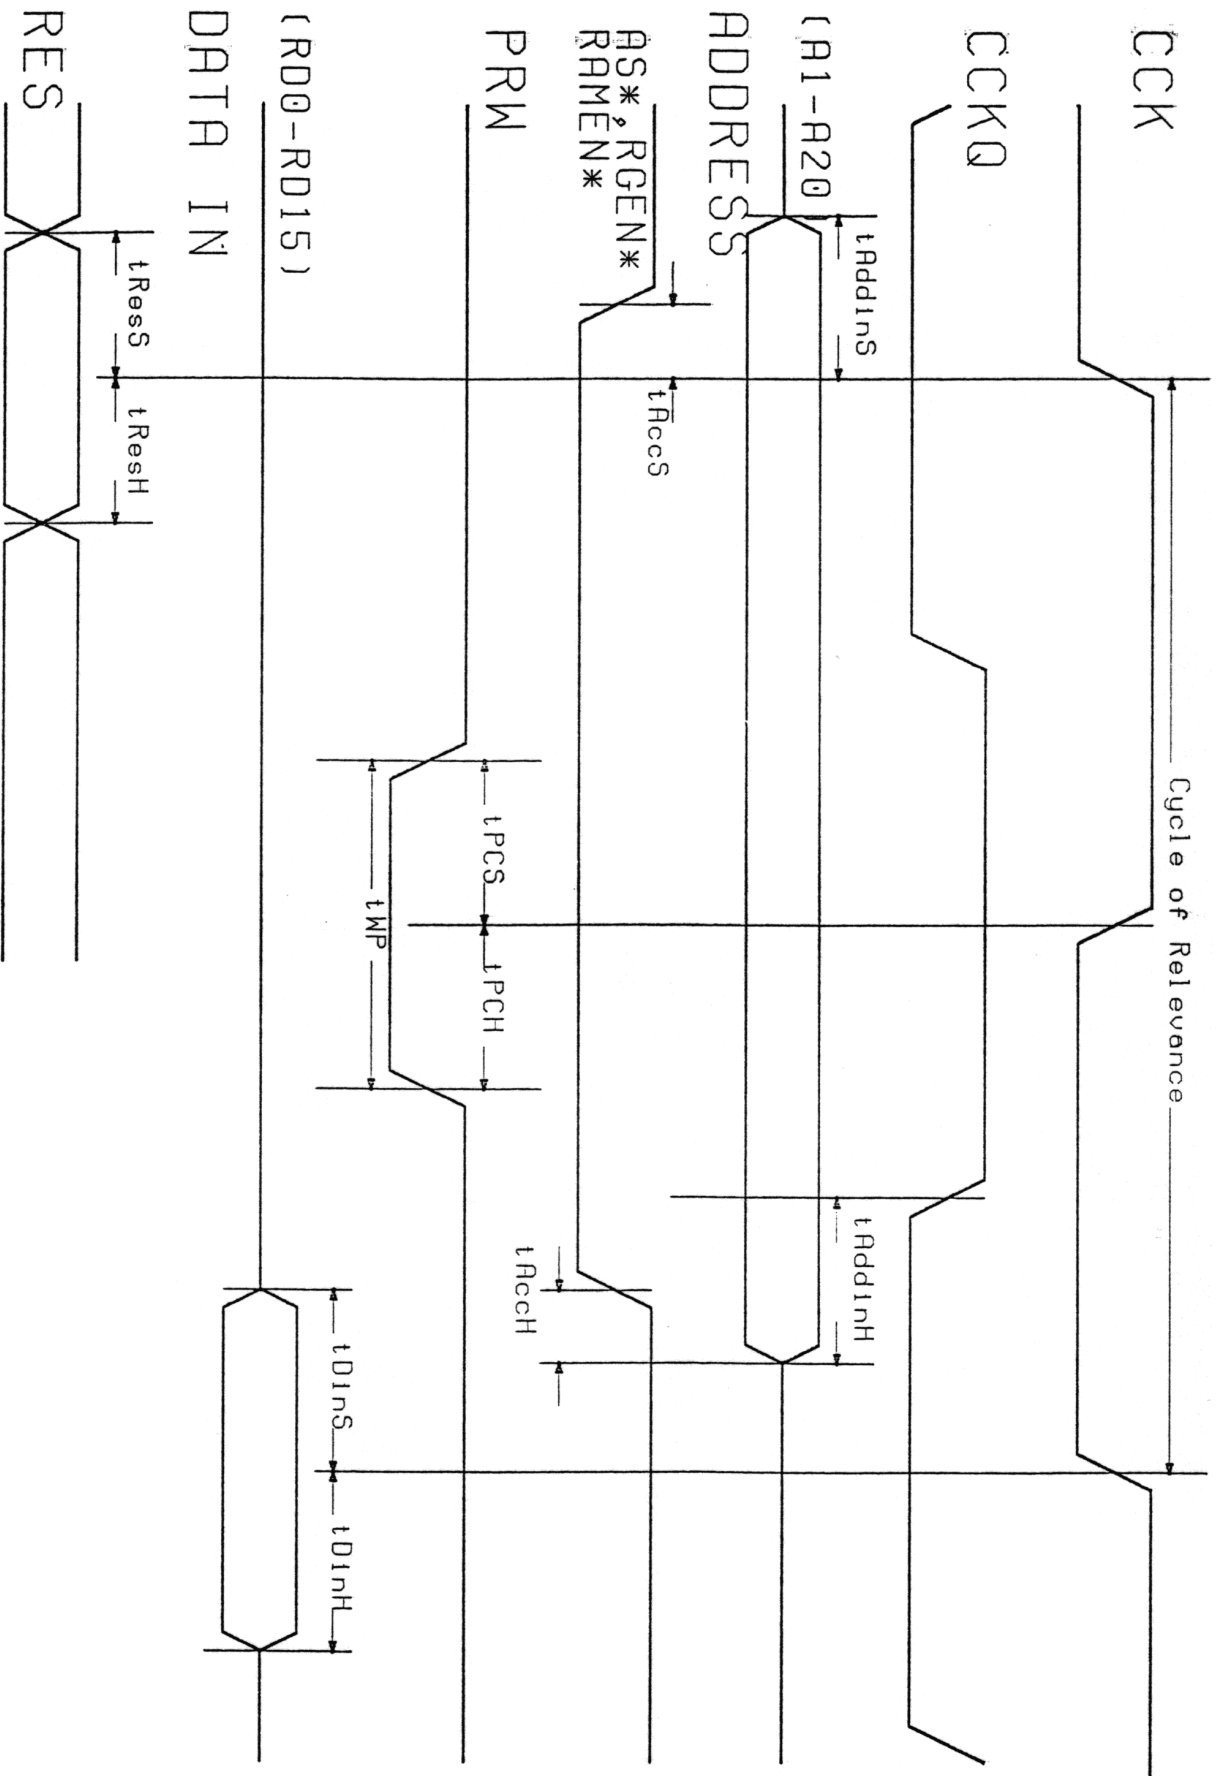

Fig. 4 PROCESSOR ACCESS
The procedure for moving and combining bit mapped images in memory received the name Bit Blit from the computer instruction that did block transfer of data on bit boundaries. The routines became known as Bit Blitters or Blitters. The Blitter DMA controller is preloaded with the address and size of 3 source images (A,B, and C) and one (1) destination (D) in the dynamic RAM (Refer to Figure 4). These images can be as small as a single character or as large as twice the screen size. They can be full images or smaller windows of a larger image. After one word of each source image is sequentially loaded into the source buffer (A,B,C) they are shifted and then combined together in the logic unit to perform image movement overlay, masking, and replacements. The result is captured in the destination buffer (D) and sent back to the RAM memory destination address.